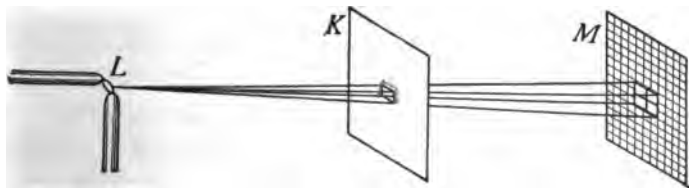

FIG. 350.—The light spreads over four times the area at twice the distance.
Cut a hole 1 in. square in a large sheet of cardboard (K) and place the card in an upright position 1 meter from an arc light or other point source of light (L). Now rule inch squares upon another card (M) and place it parallel to the first card and 2 meters from it. (See Fig. 350.) The light that passed through the hole of 1 sq. in.